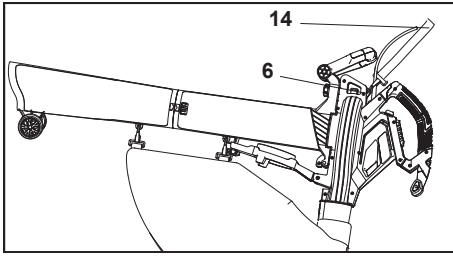
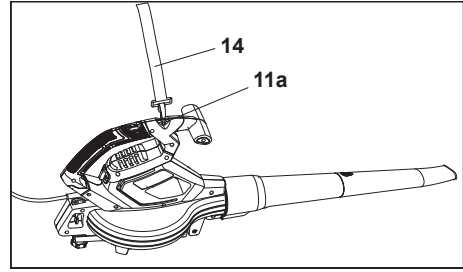

Fig. 8
Fig. 9
2. Adjust the length of the harness (14) so that the securing clip (14a) is approximately 15 cm below your waist.
3. Attach the securing clip (14a) to the hanging hole (6) when assembled for vacuuming (Fig. 8); Attach the securing clip (14a) to the hanging hole (11a) when assembled for blowing (Fig. 9).